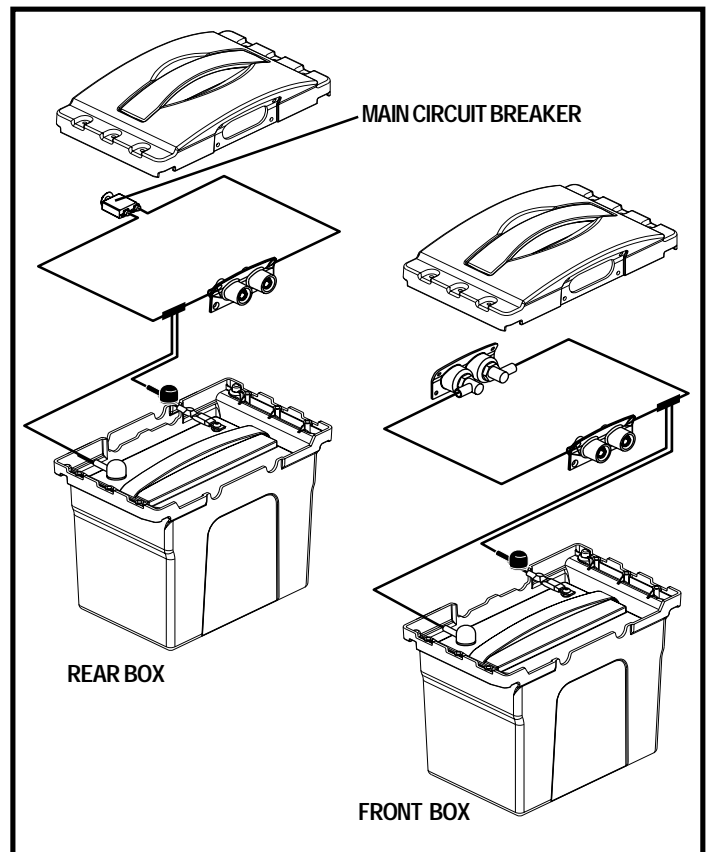

Figure 33. Battery Boxes
6. Place new batteries in the battery boxes. See figure 33.